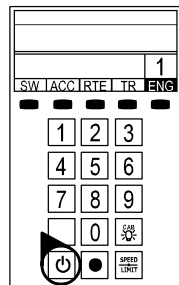

Figure 2. LEGACY start-up
5. Press the Start Up button on your LEGACY CAB-2 Remote, shown in Figure 2. Then, throttle up and move 'em out! Your engine sound will start up, and the locomotive-specific touch screen buttons will populate the remote. For more information on operating your locomotive with the LEGACY system, please refer to the LEGACY section of this manual. Additional information is also found in the LEGACY System Manual, available online at www.lionel.com.